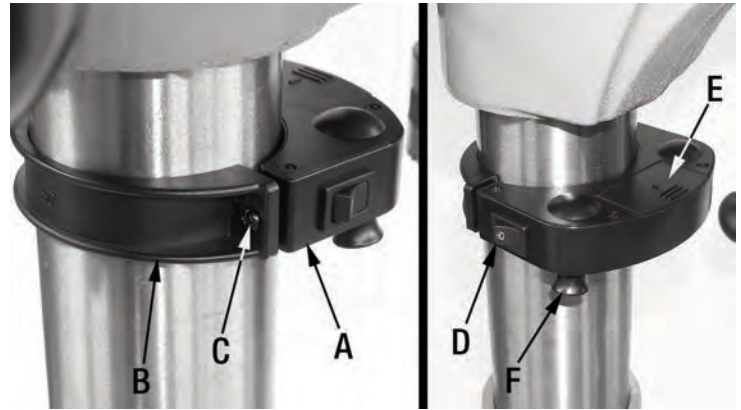

FIGURE 18
- 1) Place appropriate mounting bracket (B) Fig.18 and laser attachment (A) around the column as shown and fix them together using two pan head screws (C).
- 2) The dual laser switch (D) is located on the right side of the laser attachment.
- 3) Slide the battery compartment cover (E) forward and remove it, insert two AAA batteries (not included) and reposition battery compartment cover.
- 4) To adjust the position of the dual lasers, simply turn and move the laser heads (F) to the desired position.